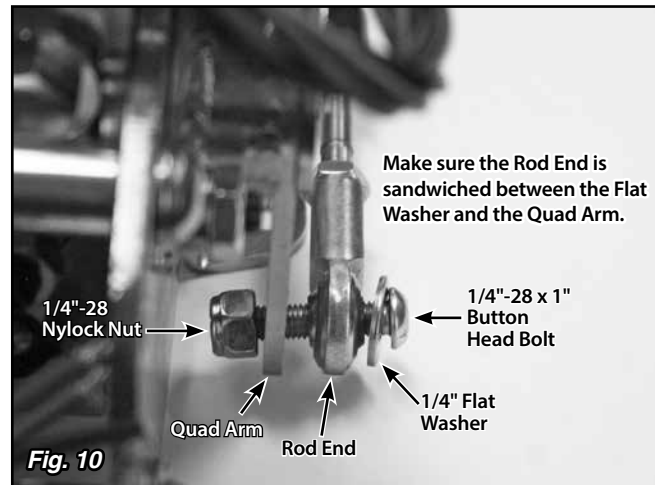

Fig. 10
Step 14: Attach the other rod end to the quad arm on the Shifter using a 1/4"-28 x 1" button head bolt, flat washer, and nylock nut. **Fig. 10** Make sure the rod end is sandwiched between the quad arm and the flat washer.